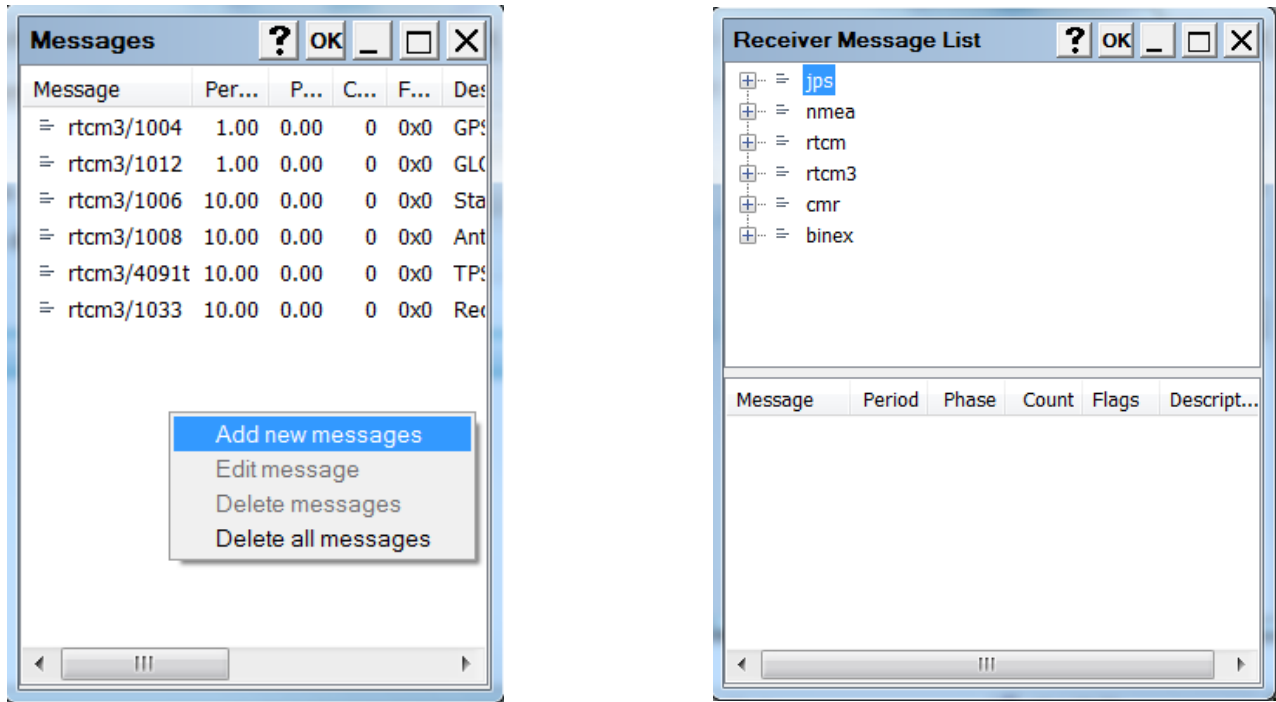

Figure 38: Add New Serial Port Messages
- Right-click in the screen and click **Add new messages**. The **Receiver Message List** screen appears (Figure 38 on page 34).